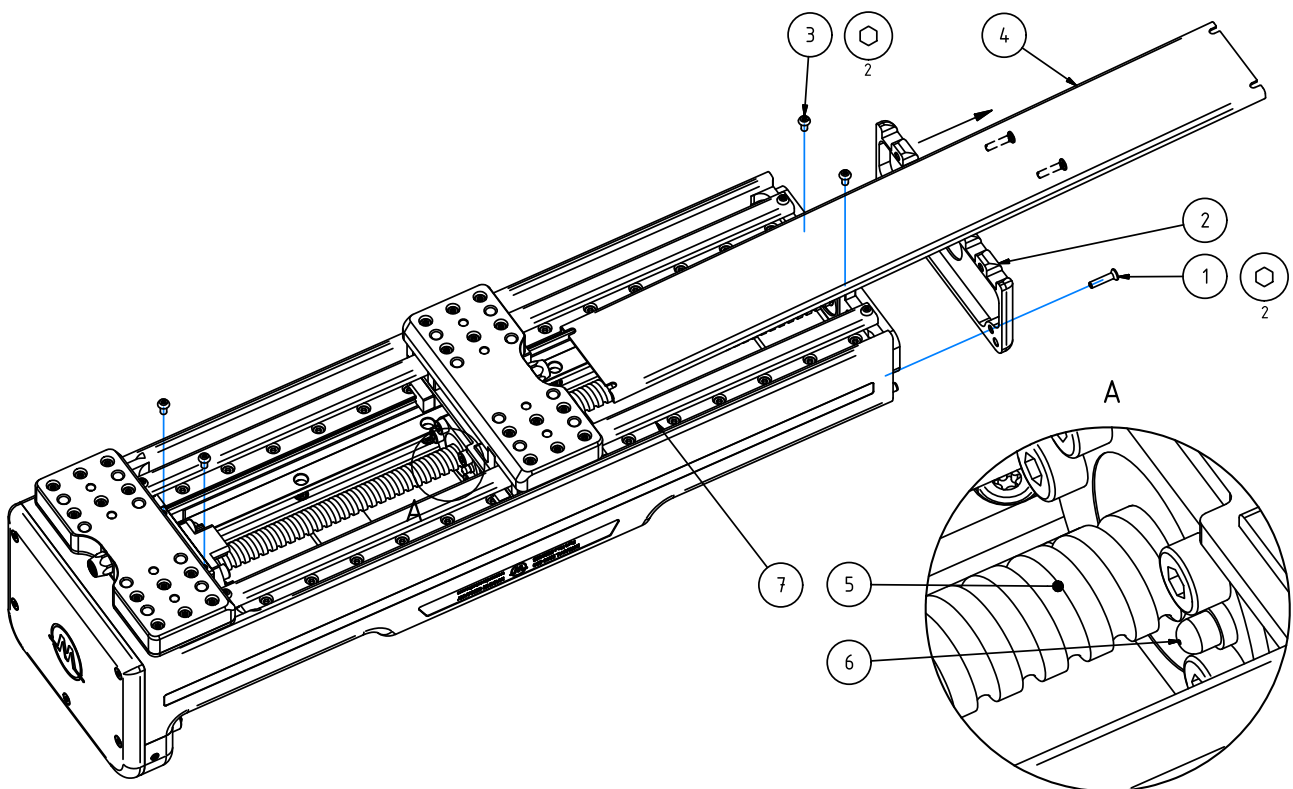

Figure 41: Removing the cover and lubricating the ball screw drive
3. Unscrew the three screws (1) and remove the side cover (2) as shown in Figure 41. Use the hexagonal screwdriver from the accessory kit.
4. Unscrew the four screws (3) and remove the top cover (4).
5. If the ball screw drive (5) is dirty or you suspect that there are foreign objects in it, first clean it with a dry, lint-free cloth.
6. Place a grease gun on the NZ 3 grease nipple (6) and press the lubricant into the lubrication unit.
7. Install the covers (4) and (2) and move the gripper at least once over the entire stroke to distribute the lubricant evenly.